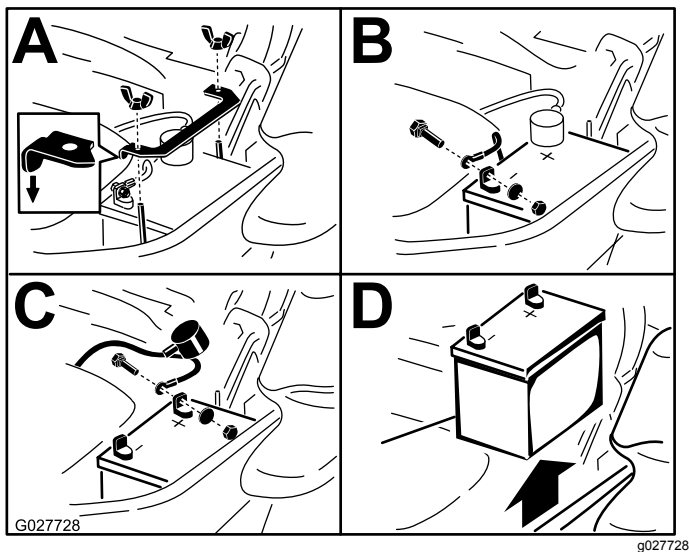

Figure 59
3. Remove the battery as shown in Figure 59.
Note: Position the battery in the tray with the terminal posts opposite from the hydraulic tank (Figure 59).